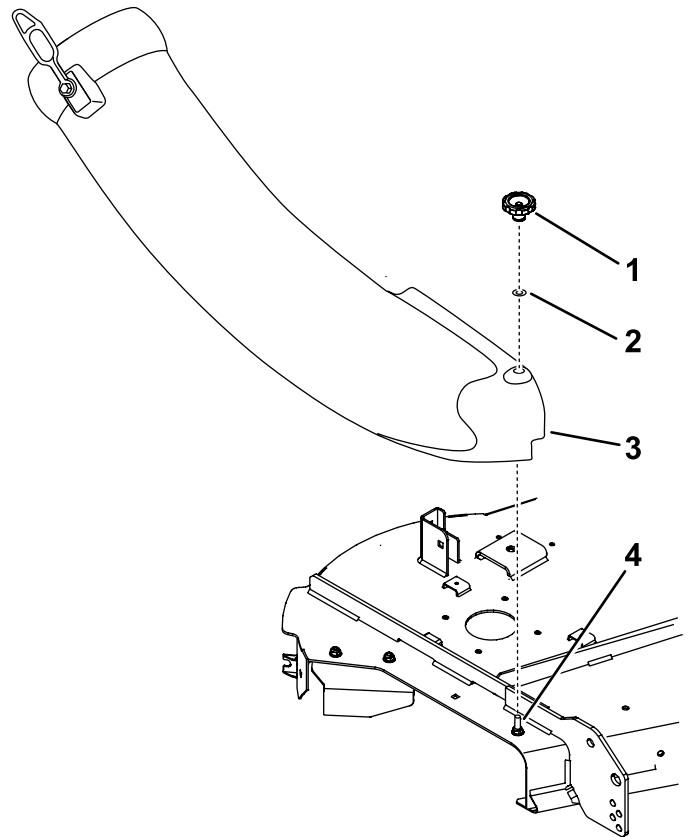

Figure 24
4. Align the hole in the chute and install it onto the bolt. Secure the chute to the mower deck with the knob and flat washer (5/16 inch) as shown in Figure 24.